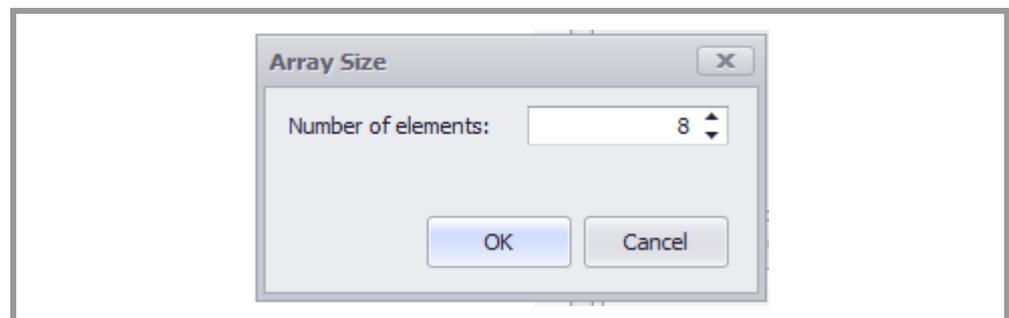

Fig. 36 Assign the last dimension of the multi-array dimensions to the array
- Set the array with the last dimension of the tag (`_arr3Dim_Variable INT[2,3,8]`), as shown in Fig. 36.